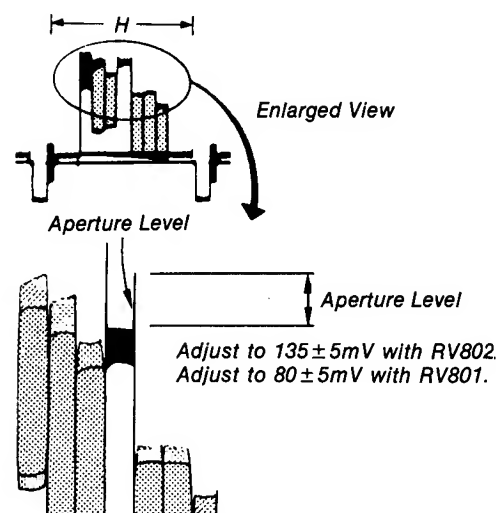

Fig. 7-30.
- 1) After focusing, swing the camera section slightly to the right and left and fix it at the point where an aperture level between white and magenta (see Fig. 7-30) is maximized.